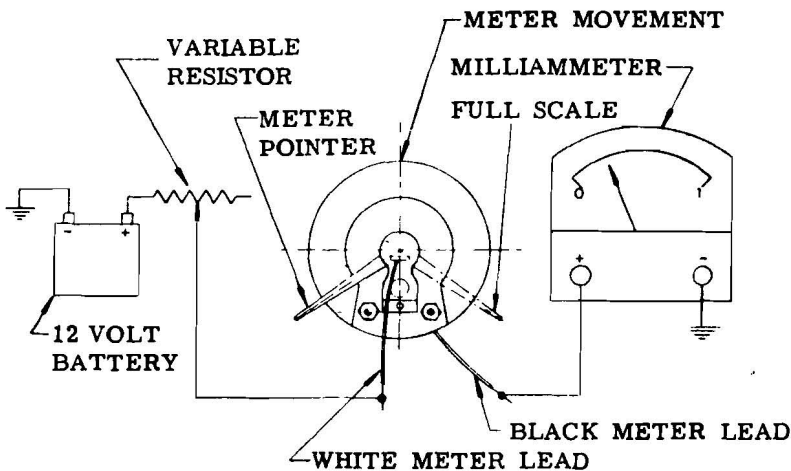

FIGURE 4
### TESTING THE METER MOVEMENT (See Fig. 4 on Page 17).
2. Connect battery, variable resistor, meter movement and milliammeter, as shown in Fig. 4.
#### TESTING THE METER MOVEMENT (See Figure 4)
2. Connect battery, variable resistor, meter movement and milliammeter as shown in Fig. 4.